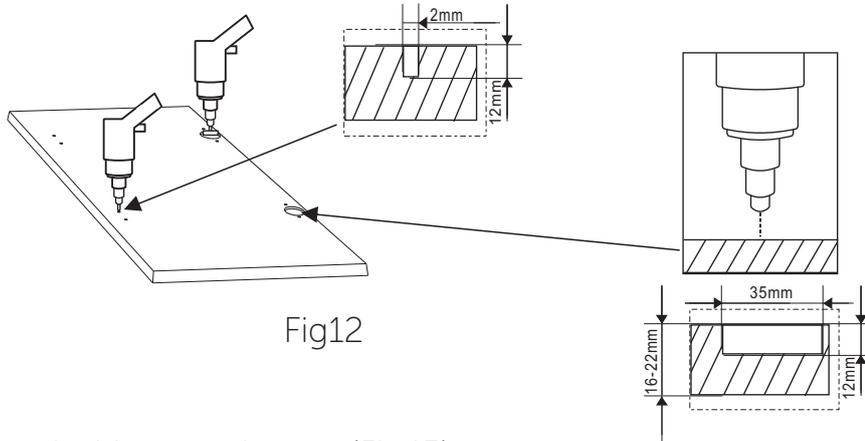

Fig12
3. Drill hole on the door(Fig 12)